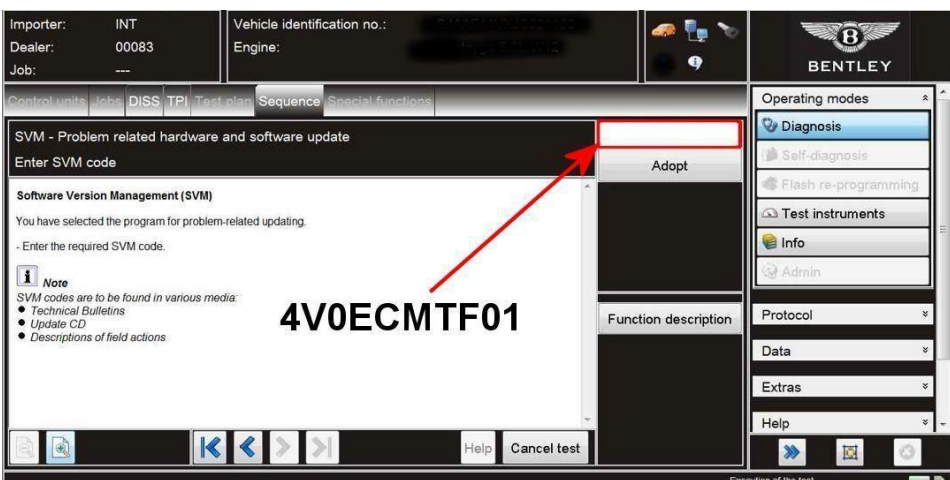

Figure 5
- 7) On the next screen enter the SVM code 4V0ECMTF01 and select Adopt (Figure 5)